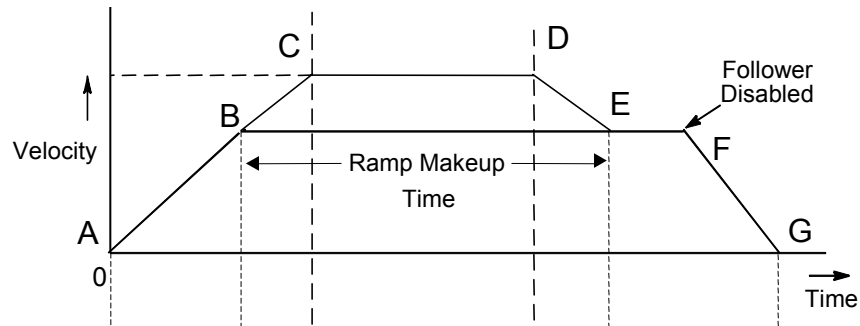

Figure 4-1. Velocity profile during the follower ramp cycle
- Accelerate the follower axis to match master velocity after the follower is enabled (sector AB in Figure 4-1),
- Make up the master command counts lost during follower acceleration (sector BC and DE in Figure 4-1),
- Decelerate to a stop after the follower is disabled (sector FG in Figure 4-1).
- **Makeup Time Mode** – in this mode the makeup process takes the amount of time specified by Ramp Makeup Time parameter (refer to Figure 4-1). This is the default mode.